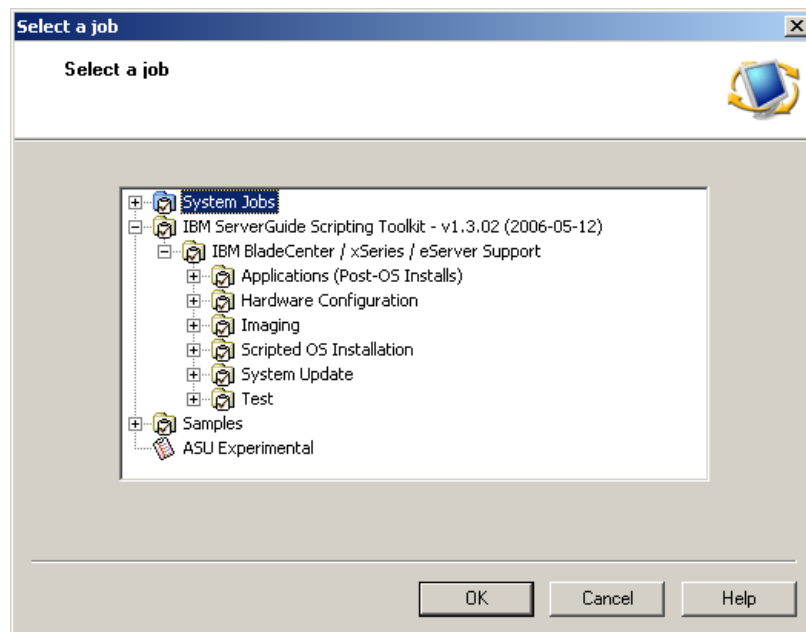

Figure 9-4 Select a predefined job to run
5. When an IBM Blade server is inserted into a BladeCenter chassis bay that has been preconfigured but not previously known by the Deployment Server to have existed in that bay, an initial job can be run. If you want to perform an initial job click **Browse** next to the Initial job field. A window appears showing predefined jobs as shown in Figure 9-4. Select the job you want to run and click **OK**.